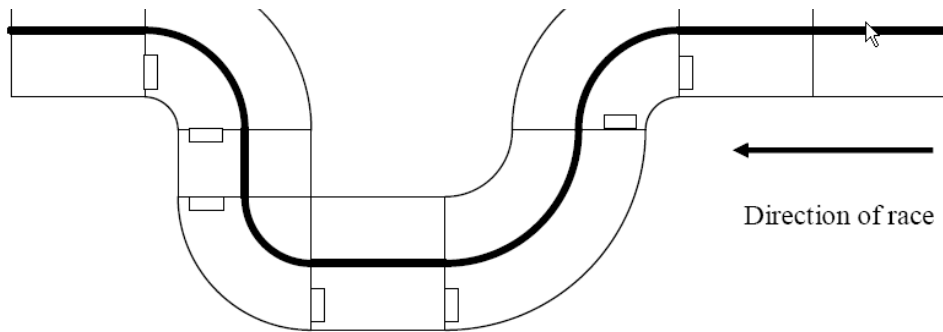
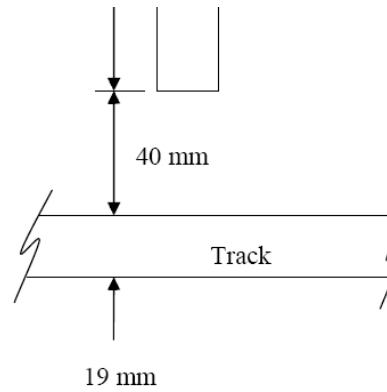

Fig. 4 Corner Markers Indicating Change of Curvature
Fig. 5 Marker Position and Dimension
2.2.9 A corner marker shall be affixed on the left side of the track in the direction of the race at each point where the curvature of the track changes (beginning and end of the arc). See Fig. 4 and Fig. 5.